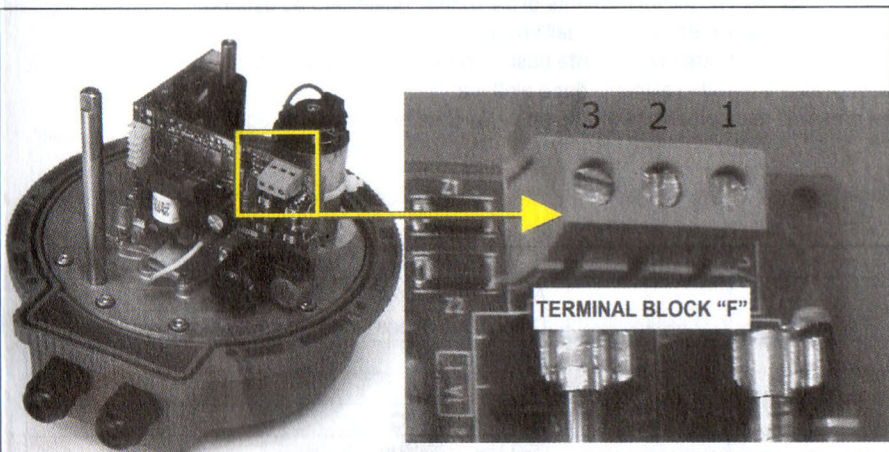

Fig.3 Plate for supply 100-240Vac/dc and particular of terminal-block "F"
4.3 Electrical connection for model supplied with 100-240 V AC 50/60 Hz (fig. 3)